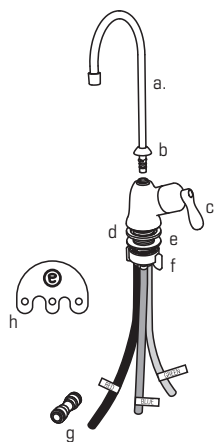

Fig. 18
**eSpring** Auxiliary Faucet Components (Fig. 18):
**NOTE: You must use the Supply Connector (Fig. 18, part c) between the valve at the water supply and the eSpring Faucet.**